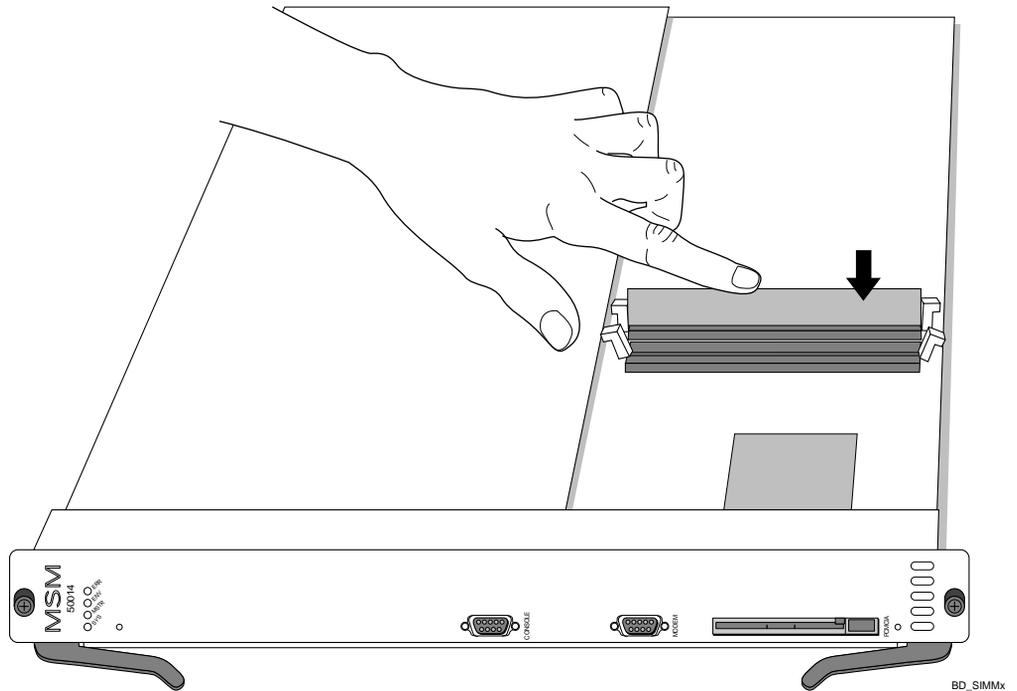

Figure 3-3: Adding a DIMM
- 4 Secure the DIMM by press down firmly until the DIMM is locked into the socket and the ejector locks rotate into position, as shown in Figure 3-3.